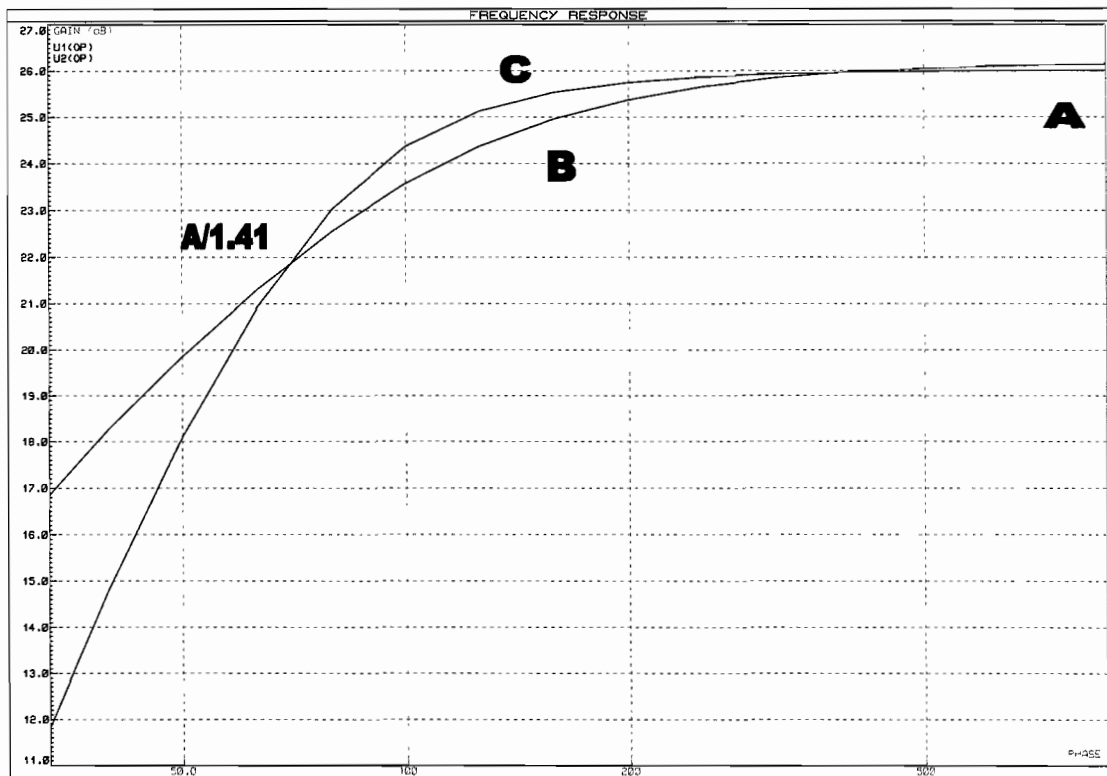

Fig 5.1
- a) The Fig 5.1 shows Chebyshev (C) and Buterworth (B) responses. Point (A) is defined as -3 dB at ω_1 . Chebyshev filter may have a peak in gain, as shown, but then attenuate a little more rapidly both settling to -40 dB/decade for a second order filter. Good for maintaining the gain near the turnover frequency but at the expense of light gain peak. Gain-Bandwidth product limits the passband and give an upper -3dB point at ω_2 where $A * \omega_2 = G-B$ product.